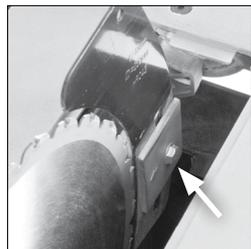

Fig. 15
- Loosen the Riving Knife fixing bolt by several turns (Fig. 15).
- Slide the Riving Knife (it is slotted for convenience) between the fixing plate and mounting block (Fig. 15). Ensure that the mounting blocks projecting lugs engage with the slot in the Riving Knife.